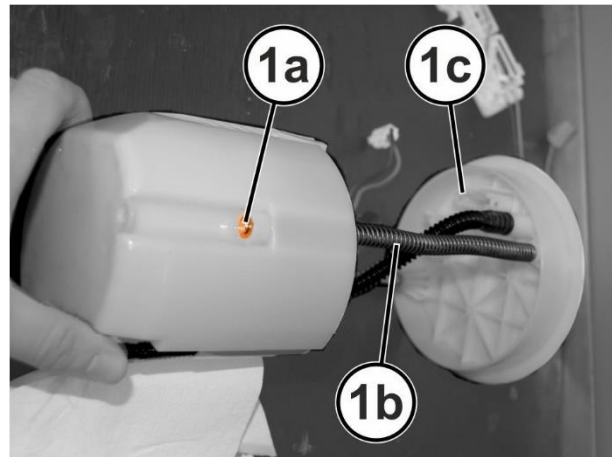

Figure 25 – Tie Rod Clip
52. Remove the clip (1a) to release the tie rod (1b) and cover (1c) from the fuel delivery module lower housing (Figure 25).
53. The cover (1c) and tie rods (1b) may now be separated from the fuel delivery module lower housing. (Figure 25). Use care to not stress or kink the hose.
8. Insert the module cover (1c) with tie rods (1b) and spring assembly into the fuel delivery module assembly lower housing, then install the retaining clip (1a) to the tie rod (1b) (Figure 25).